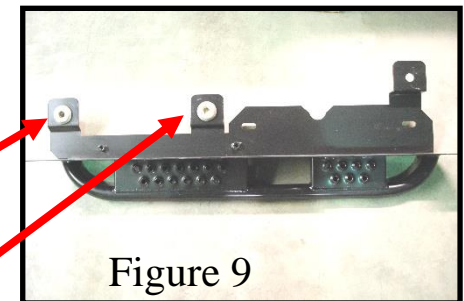

Figure 9
Step 7 - Place the two metal cap washers from the bushings into the two holes on the Rock Slider as shown in (Figure 9). Then, place the trimmed rubber bushings back into the body mount brackets on the Jeep. Then slide the Rock Slider into place onto the Jeep while positioning the stem of the metal cap washers through the hole in the rubber bushings. Gently lower the body back down.